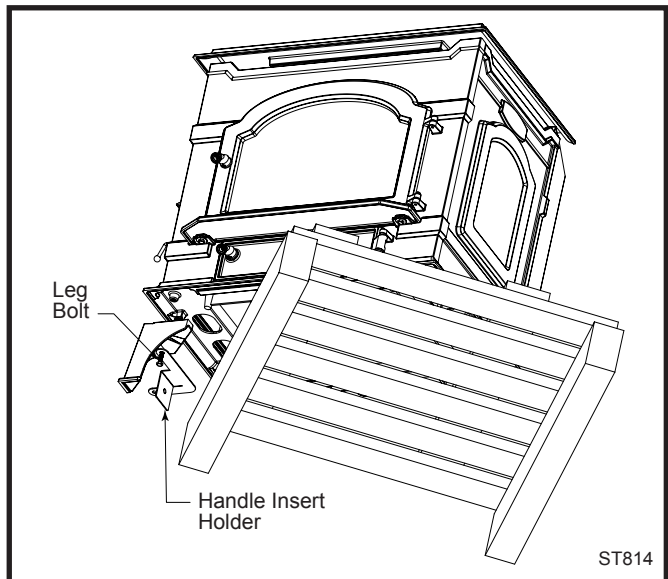

Fig. 20 Rotate stove on pallet to expose front left corner.
2. Rotate the stove counterclockwise until the front left corner overhangs the pallet and the leg-mounting hole is accessible. (Fig. 20)
3. Remove and discard the (4) 3/8-16 x 1/2" round head bolts that are in the leg holes on the bottom of the stove.